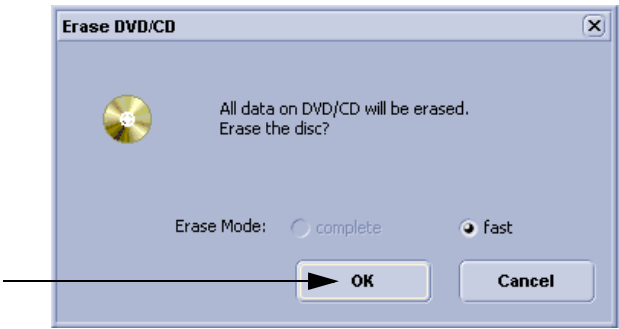

Figure 4-19 Erase DVD/CD Window
- 4.) Click the **ERASE CD** button to displays the “Erase DVD/CD” window as shown in Figure 4-19.